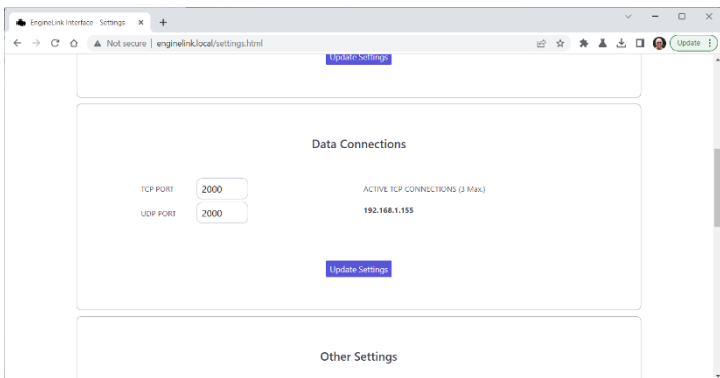

Figure 13
- Ports Setting – the Port number (default = 2000) that EngineLink uses for UDP and TCP connections (Fig 13)
There is normally no reason to change either of the Port settings from the default 2000, unless this port is being used by another device, in which case you can change the value as shown in Fig 13.